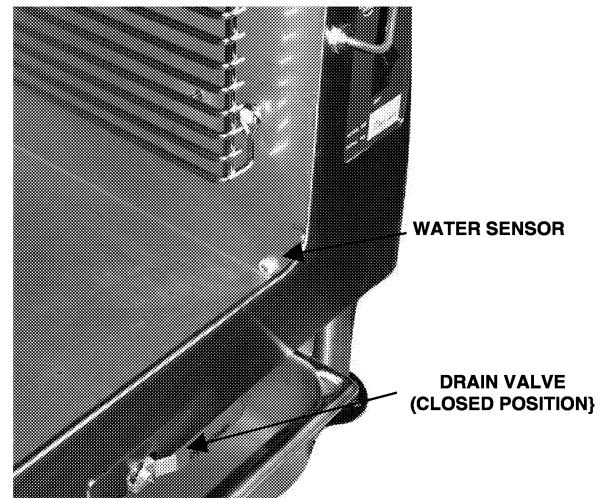

Figure 2-2 Compartment Water Fill
- b. All food debris should be wiped clean and the drain opening and the water level screw shall be inspected and cleaned of any residue or debris (See Figure 2-2).